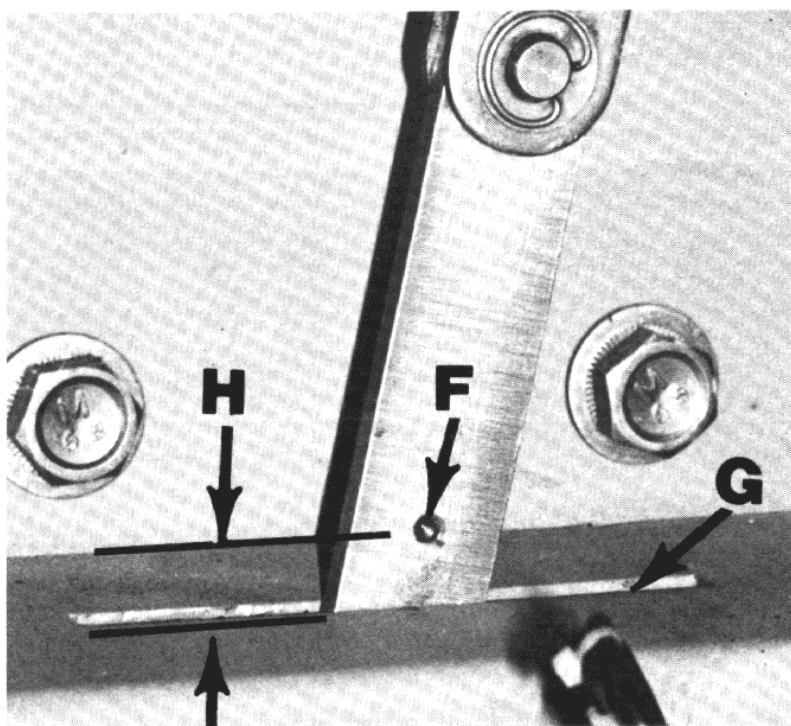

Figure 14: Measuring Contact Wear
12. Use the manual charging handle to barely hold the arcing contacts closed (the moment the light comes on). Observe the red wear dot on the opening spring guide (figure 14). For a new interrupter, dimension “H” measures .41 inches (10.5 mm).
If the bottom edge of the red dot (marked "F" in figure 14) is at or below the top of the frame (marked "G"), the arcing contacts are worn out. All three interrupters should be replaced as a set (no adjustment exists). *Contact Square D Company for complete instructions if this becomes necessary.*